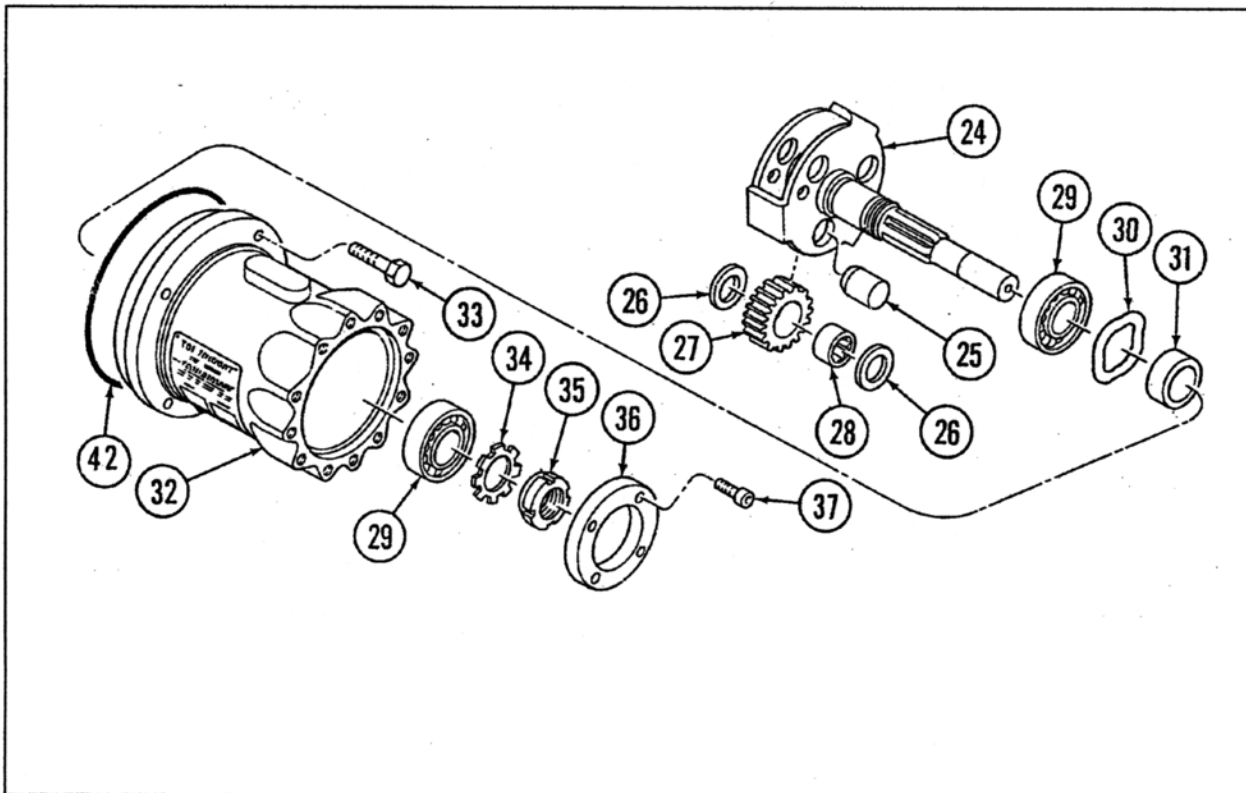

Figure 4. Gearbox Housing Assembly
The gearbox housing assembly, refer to figure 4, consist of a planet gear carrier and output shaft (24), three planet gears (27), needle bearings (28), spacers (26), and planet shafts (25).